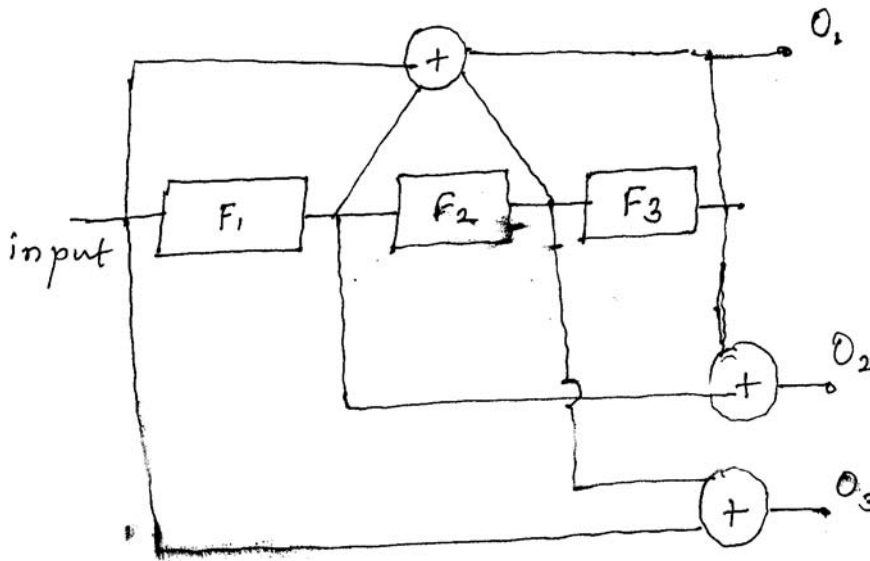

Fig. 1
7. a) For the convolutional encoder shown in fig. 1, determine the constraint length and dimension of the code. Construct the code tree, state diagram, trellis diagram. Find out the output of the encoder corresponding to the message sequence 10111 using trellis. 12